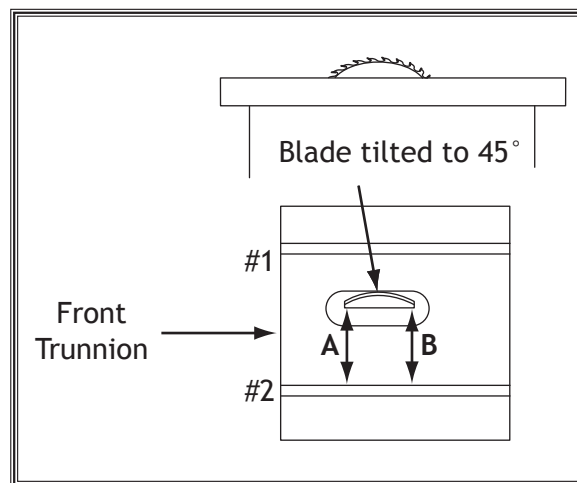

Figure 98. Locations of the front trunnion shims.
- If the distance of **A** is greater than **B**, remove one shim from each side of the front trunnion (locations #1 and #2 in **Figure 98**).